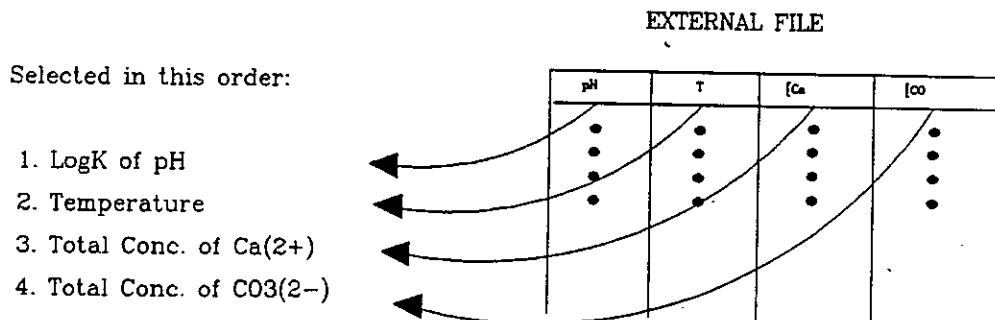

Figure 2.11.
For **Field Data** calculations, the process of selecting a multiple-run parameter is almost the same as the one described above. However, since you must provide the multiple-run data from an external data file, MINEQL⁺ will not ask for information related to the starting and ending values. Only two pieces of information are required to run **Field Data** analysis: (1) the column order of your data file, and (2) the name of the file. The file must be an ASCII text file and must be organized such that each column is a separate parameter (see Table 2.1) and each row a separate run or observation. There can be no more than 25 columns in the file and the maximum number of rows should be below 4000 if you plan on generating output compatible with Lotus 1-2-3 file format. Otherwise, the file can maintain a free format. To tell MINEQL⁺ which columns are associated with which parameters, you must select the multiple-run parameters in the order that they appear in the data file (Figure 2.11). To review the order of multiple-run parameters, press the **F6** key and scroll the bottom window of the Multi-Run Manager.